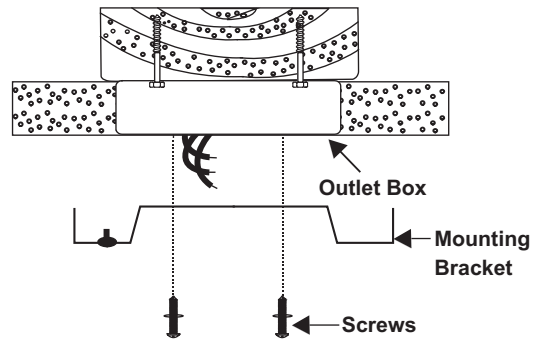

Figure 4
1. Attach the mounting bracket to the outlet box using the two screws and washers provided with the outlet box. (Fig. 4) For best performance be sure the mounting bracket is level and secured firmly against the ceiling. You may need to insert additional washers (not provided) between the outlet box and mounting bracket to make it level.